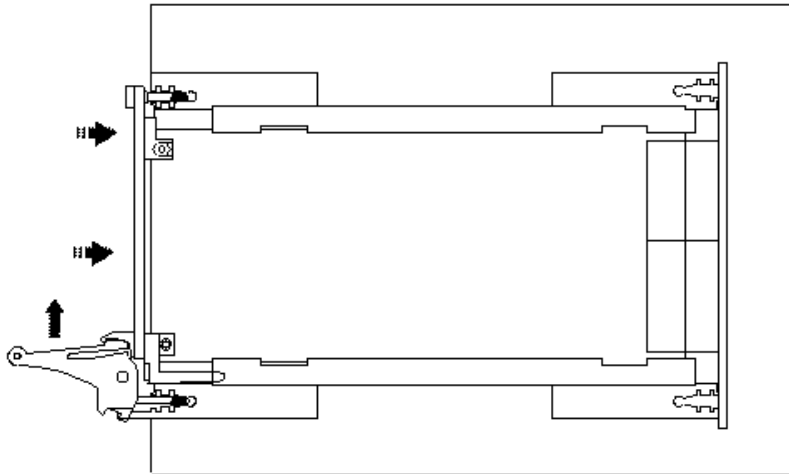

Figure 3-4: Ejector handles position after module insertion
- After you feel resistance, push in the ejector handles as shown in Figure 3-4 to secure the module into the frame.